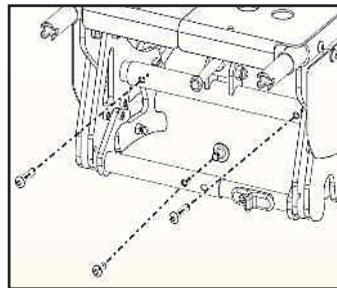

Fig. 39
5. On the front of the chair, remove the three adjustment bolts on the docking latch assembly. Fig. 39